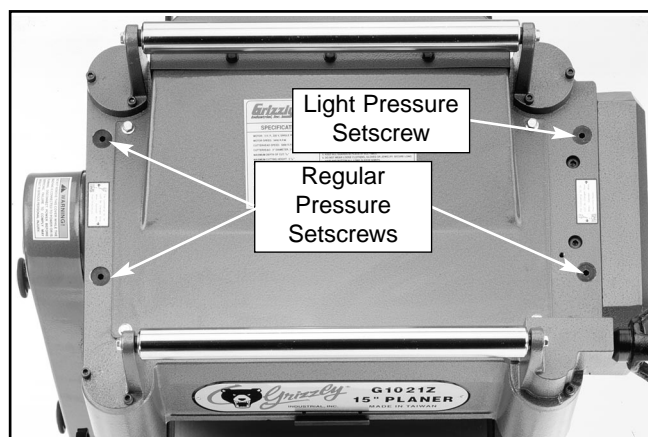

Figure 25. Roller pressure adjustment.
3. Unscrew the four large pressure setscrews on top of the planer body. **See Figure 25.**